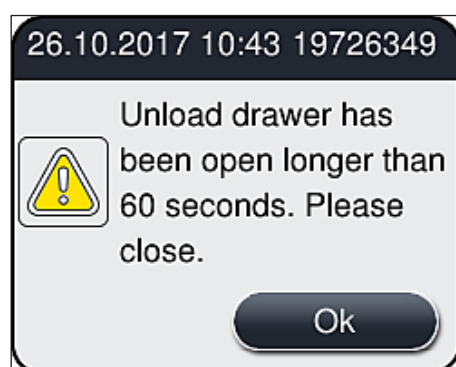

Fig. 77
- The user receives an information message (→ Fig. 77) if the unload drawer is open for longer than 60 seconds.